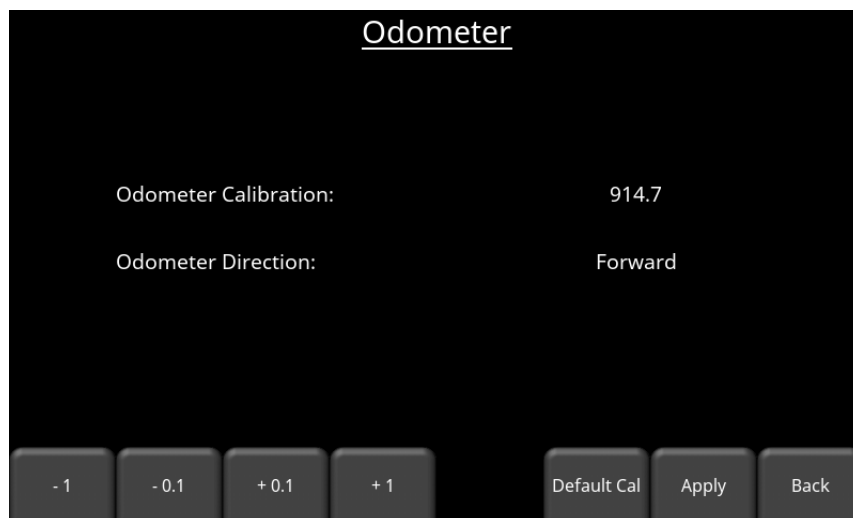

Figure 5-34: Manually setting odometer calibration value
- **Manual** – Pressing this button changes the bottom menu, allowing you to manually insert a calibration value. This can be done using the buttons along the bottom of the screen to increase or decrease the calibration value (Figure 5-34).